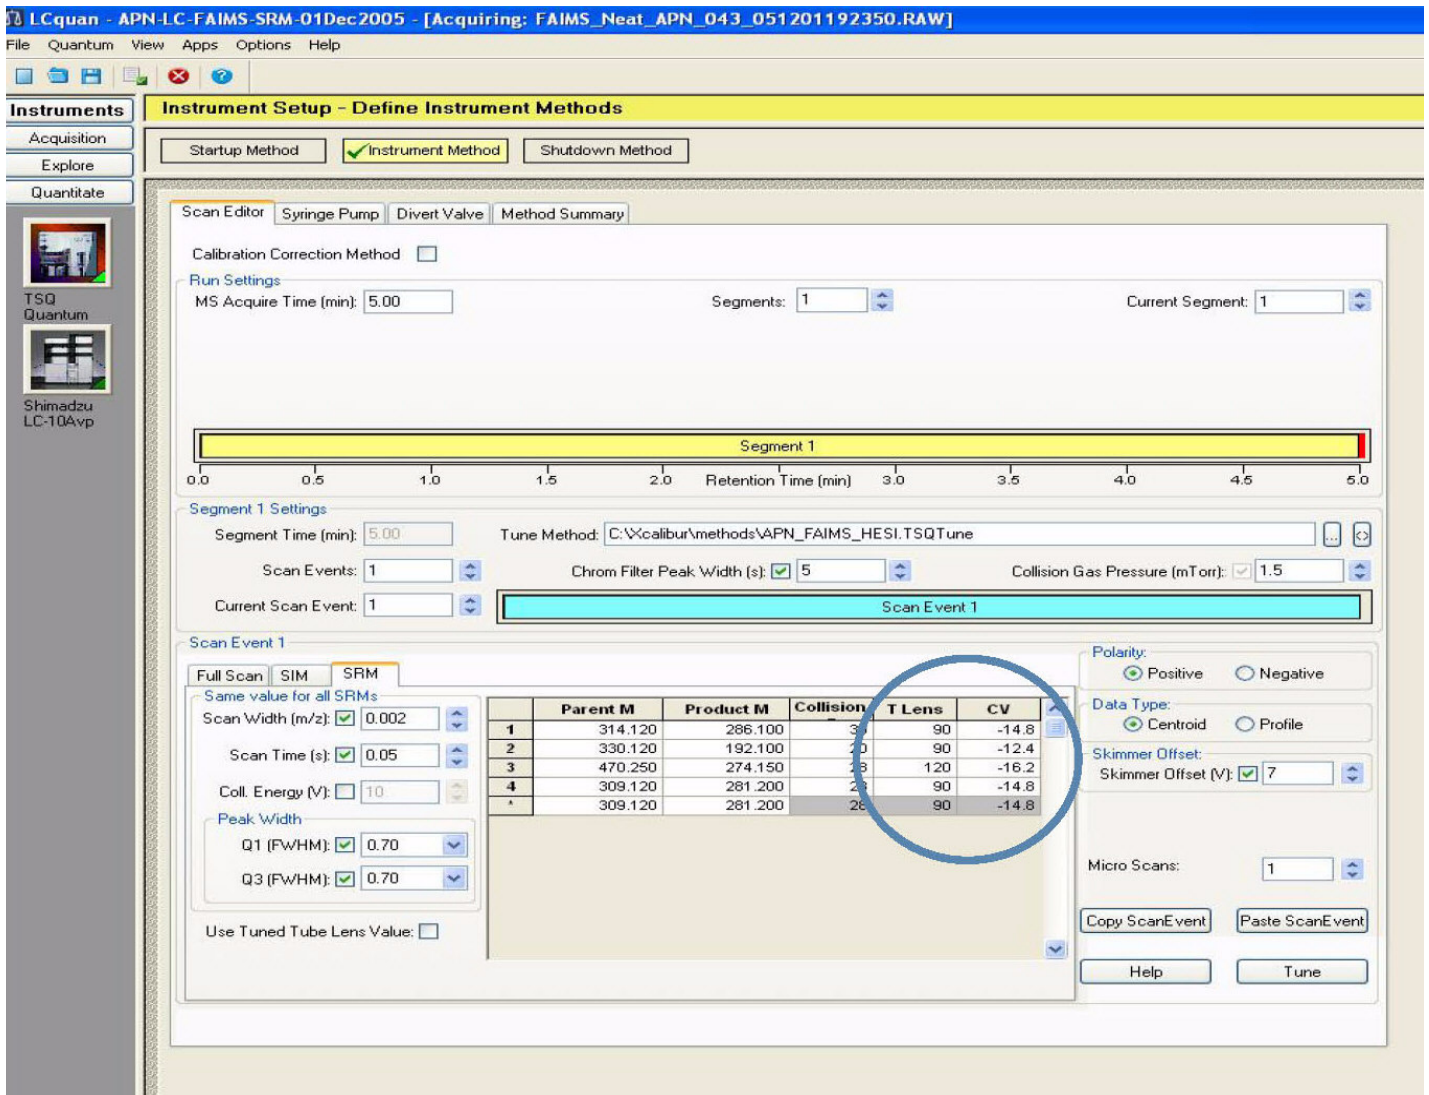

Figure 21. LCquan, showing the imported CVs
5. Right-click anywhere and select **Paste Scan Event** from the menu that appears. Xcalibur pastes the SIM or SRM masses, tube lens voltages, and CVs from Quantum Tune into the SIM or SRM table, as Figure 21 shows.